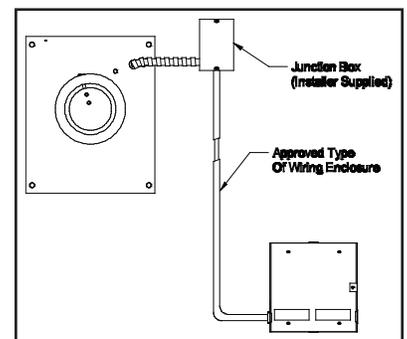
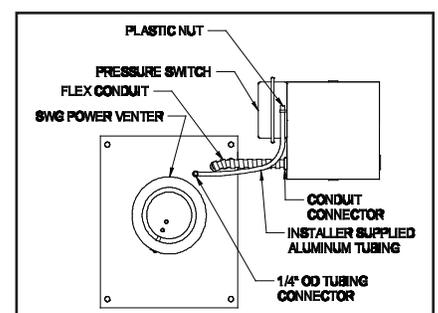

Figure 2
Figure 3
2. Fasten the flexible conduit from the SWG Venter into the conduit connector. Mount the CK-92FVP control box onto a non-heated vertical surface of the appliance or nearby wall or floor joist through the four dimpled locations on the base of the box. **NOTE:** The mounted pressure switch diaphragm must be mounted with a vertical orientation; see label on pressure switch. (See Figure 3) If required, run additional wiring as in figure 2 and connect to CK-92FVP control box, if required, using the supplied flexible conduit connector and approved connectors and anti-short bushings.
1. Attach the 1/4" tubing connector to the pressure tube on the SWG Venter. (See Figure 3)